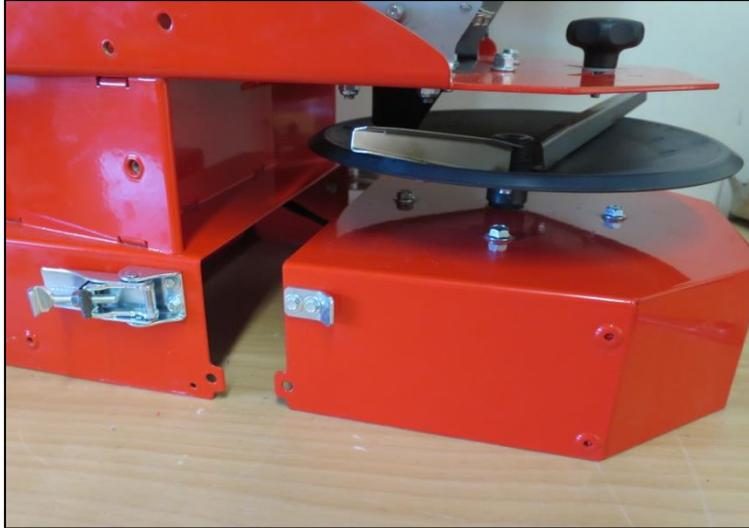

Fig.: 129
- To connect the cable from the spreading plate motor to the multi-metering unit, position the plate frame as shown in Fig.: 129.